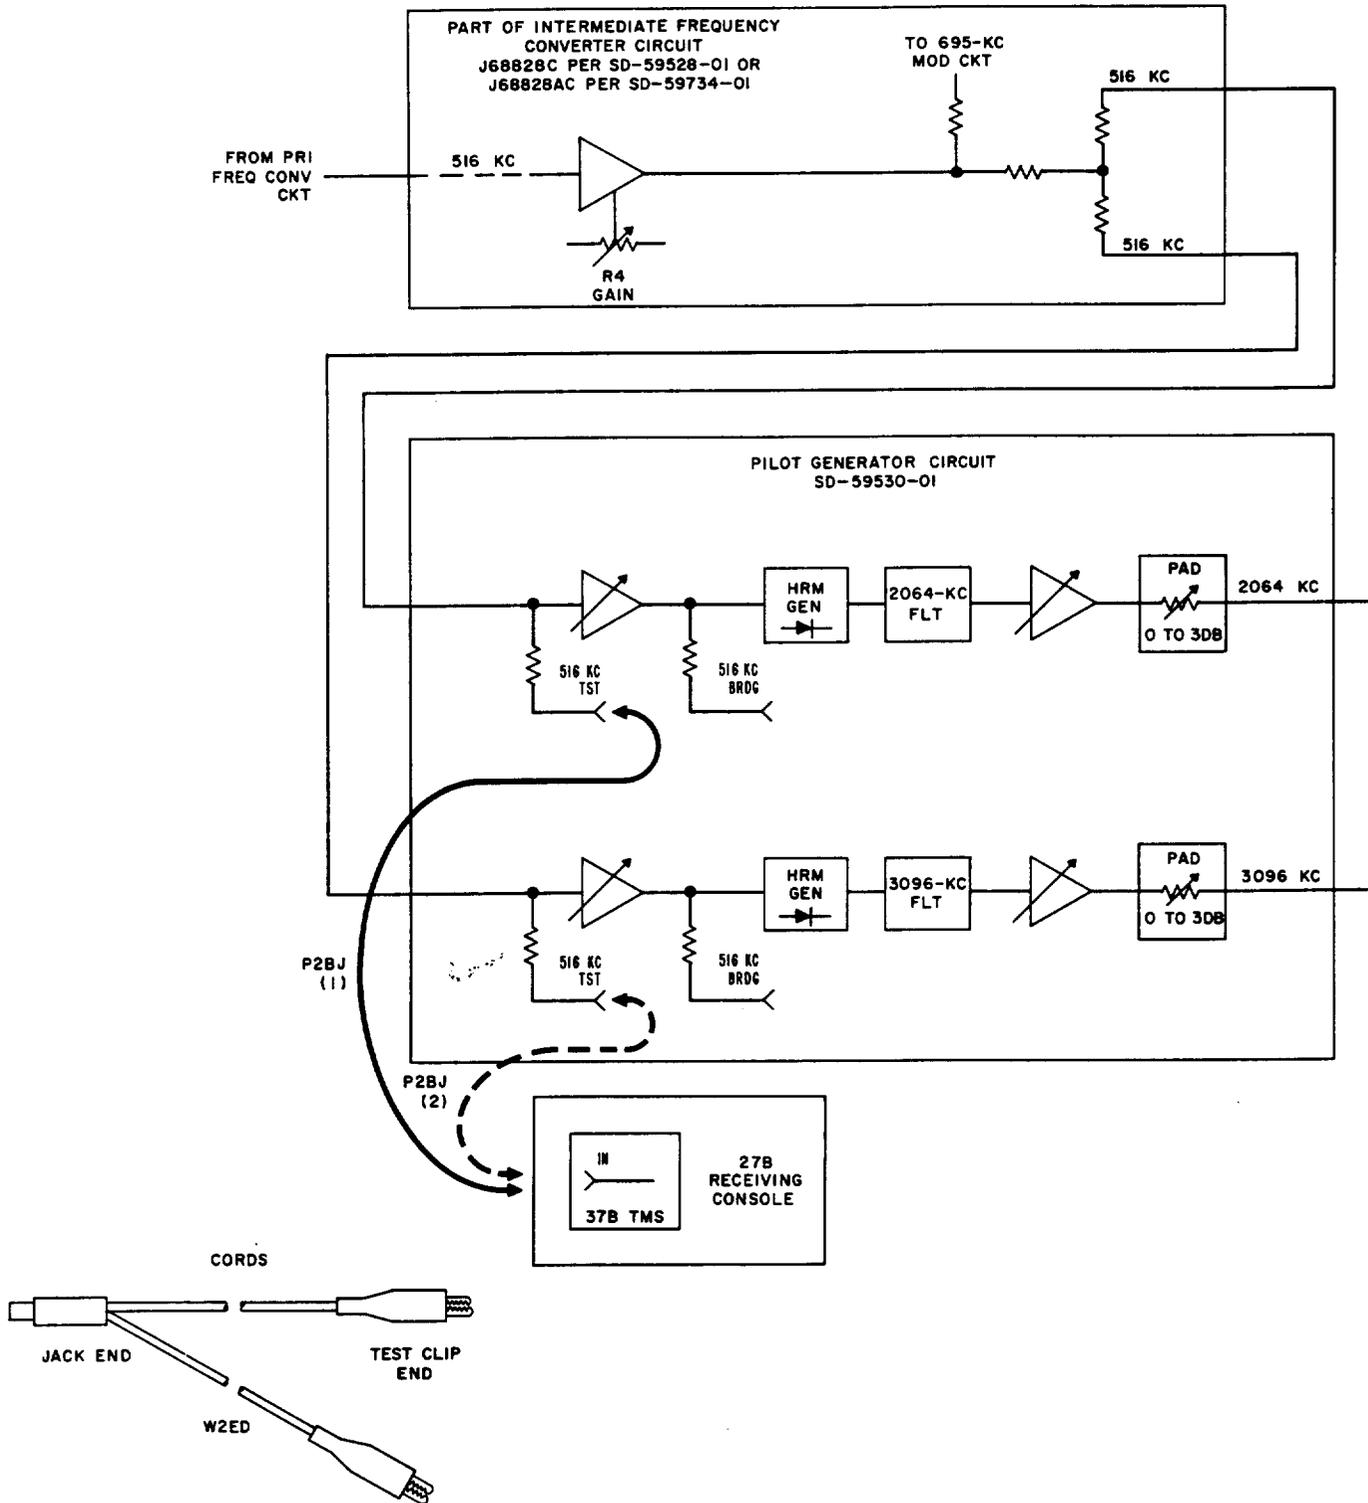

Fig. 1 — Intermediate Frequency Converter Circuit — Measurement of the 516-KC Output
- 1 — W2ED Cord (See Fig. 1)
2	Make patch designated (1) in Fig. 1.
4	Transfer the P2BJ cord to make patch designated (2) in Fig. 1.